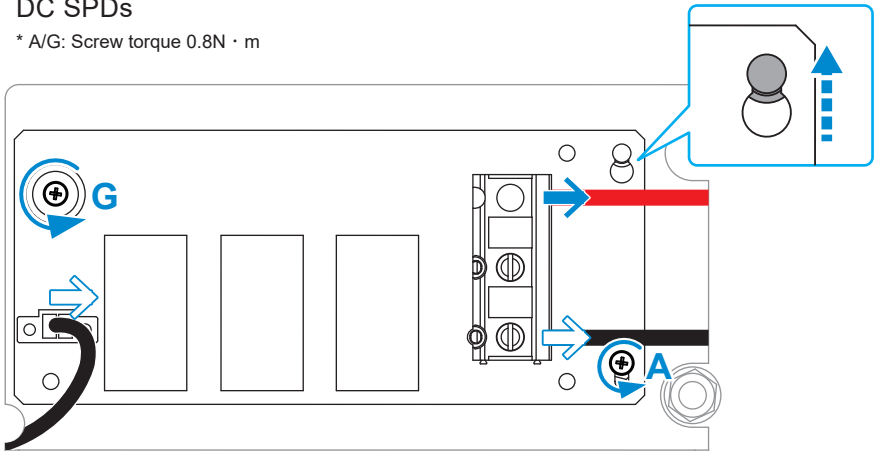

Figure 5-7: Remove wirings as connectors of DC SPD
- **To remove the defective DC SPD (Figure 5-7)**
3. Remove two self-retaining screws located on the right (DC) side of the DC SPD PCB.
Tighten the five screws to a torque value shown in **Figure 5-7**.